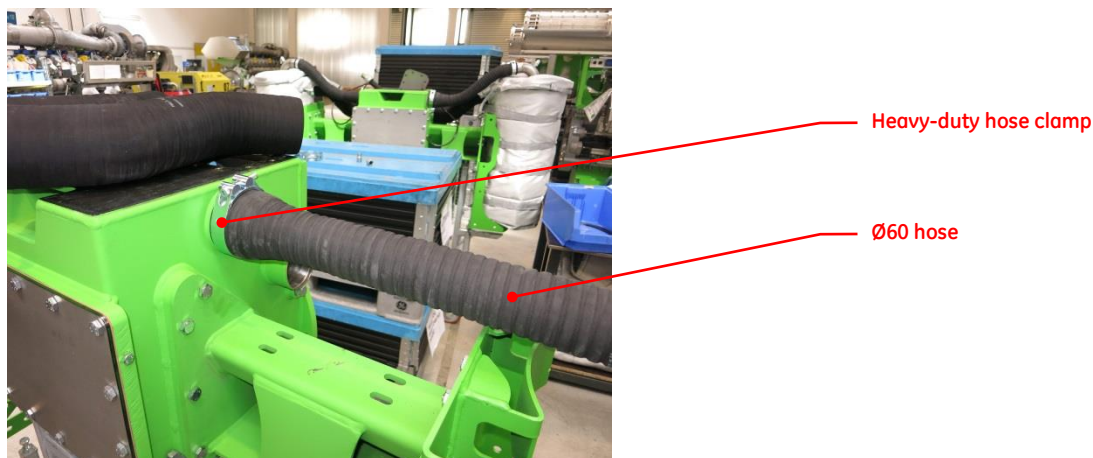

Figure 19: Fitting the Ø60 hose
Push the Ø60 hose (the thinner of the two hoses) on to the connection of the preliminary separator housing (see Figure 19). Fasten the hose to the preliminary separator housing with a heavy-duty hose clamp (91). Tighten the heavy-duty hose clamps with a screwdriver and finally retighten it to a torque of 18 Nm (after fitting the filter housing and the cover).